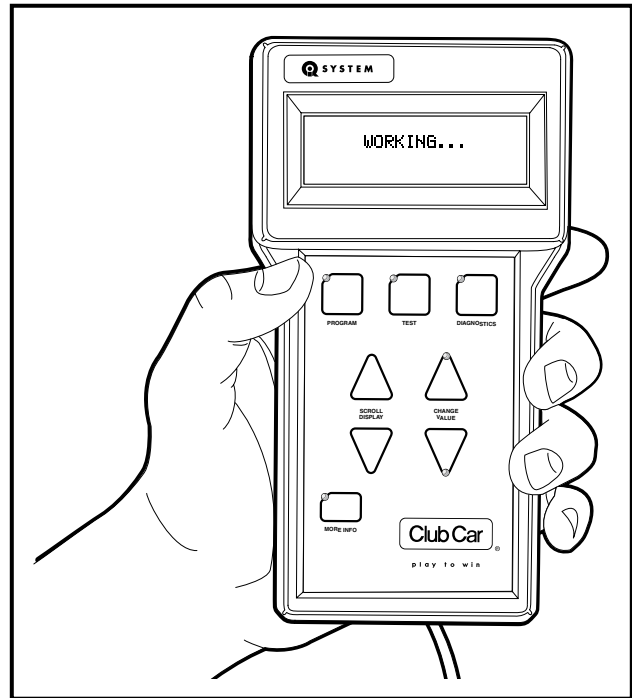

Figure 16 IQDM Working
5. The IQDM will display a "working..." message for the next few seconds while the controller settings are being reset (**Figure 16**).
8. The IQDM will display a "working..." message for the next few seconds while the controller settings are being stored in the IQDM's memory (**Figure 16**).
9. The IQDM will display a "working..." message for the next few seconds while the controller settings are transferred the IQDM's memory to the speed controller (**Figure 16**).